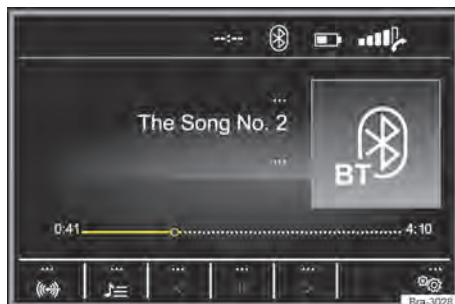
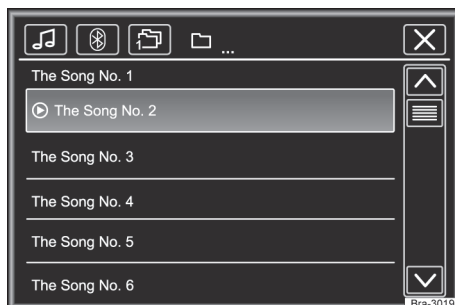

Fig. 132 Media main menu.
Fig. 133 Radio operation: station list.
- Press the **MEDIA** button to open the **MEDIA** main menu → Fig. 132.
Currently played media source is shown in the lower left function button pad → Fig. 132.
Caption for → Fig. 132 and → Fig. 133: